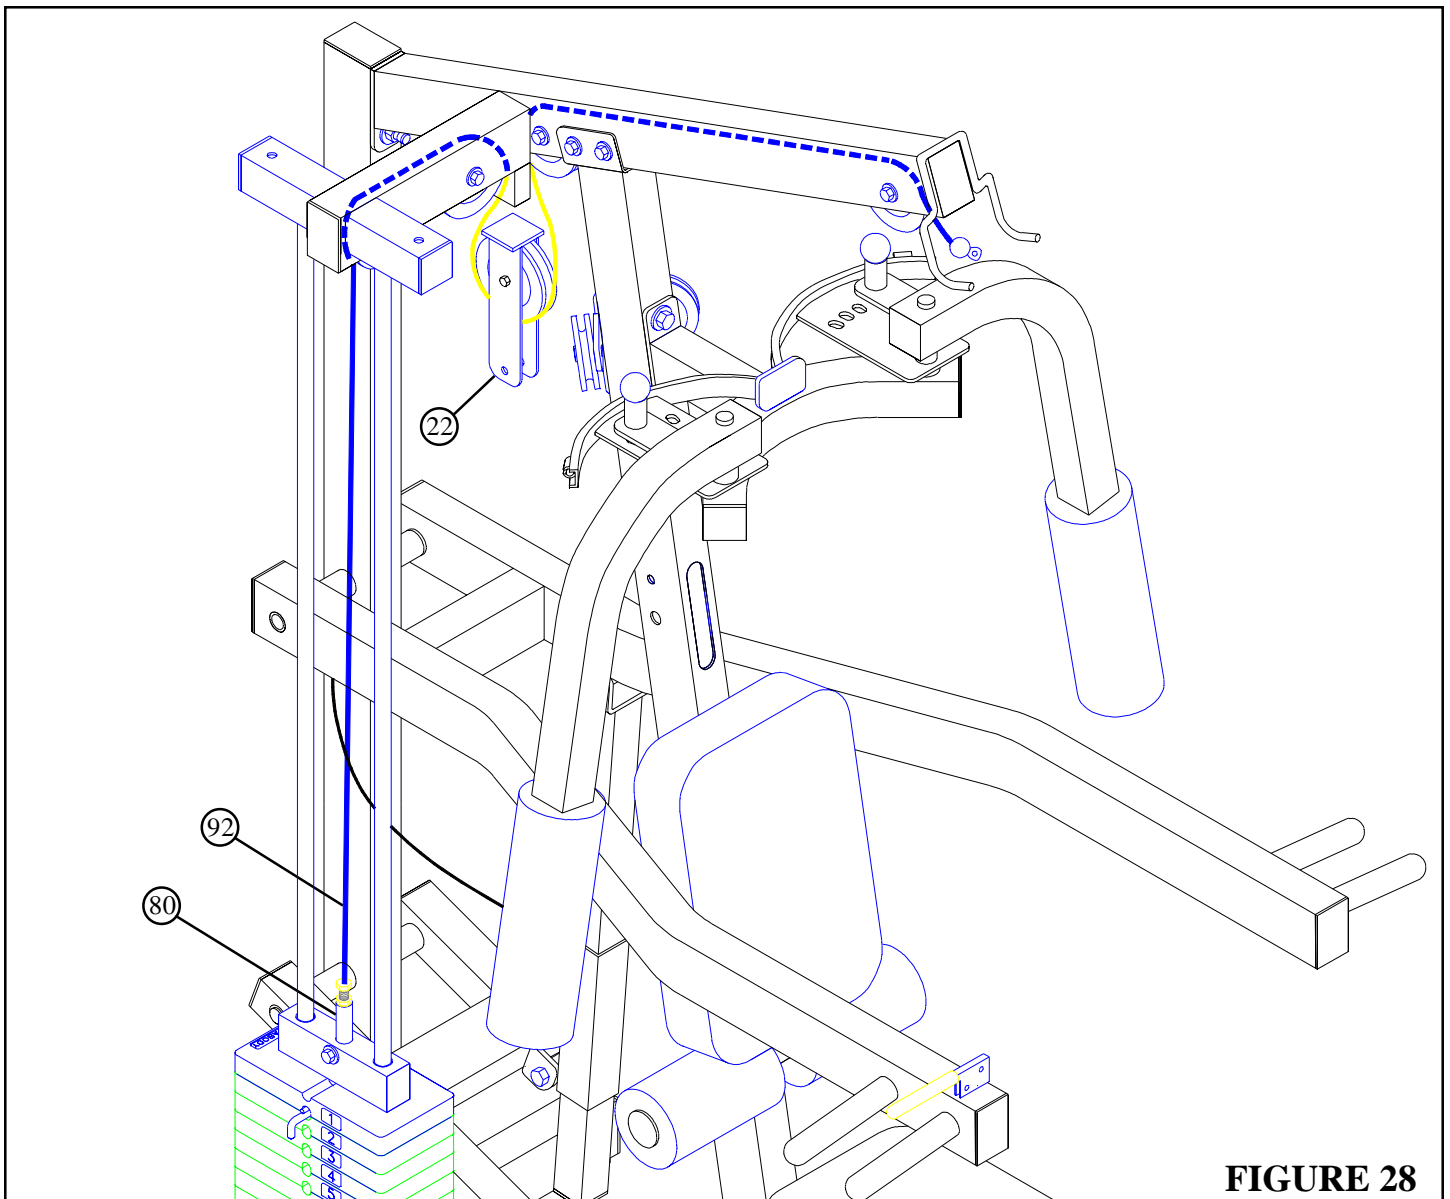

FIGURE 28
- Screw the threaded end of LAT CABLE (92) into the end of the WEIGHT STACK SHAFT (80) until the FLOATING PULLEY BRACKET (22) firmly contacts the end cap on the TOP BOOM (7) and the CABLE (92) slightly pulls on the HEAD PLATE (81). Tighten the jam nut securely. See FIGURE 28.